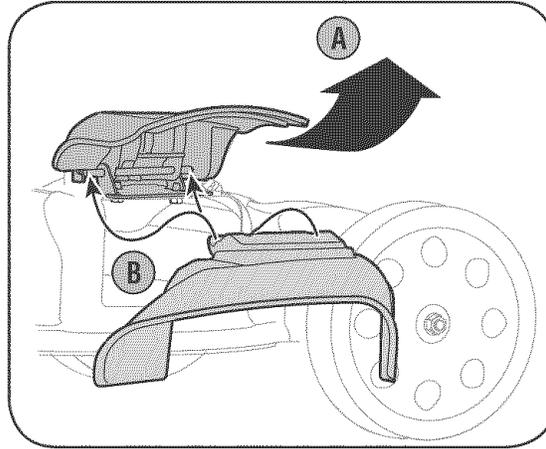

Figure 3-6: Installing the side discharge chute.
- b. Slide two hooks on side discharge chute under hinge pin on mulching plug assembly, Figure 3-6. Lower the mulching plug. Do not remove side mulching plug at any time even when you are not mulching.